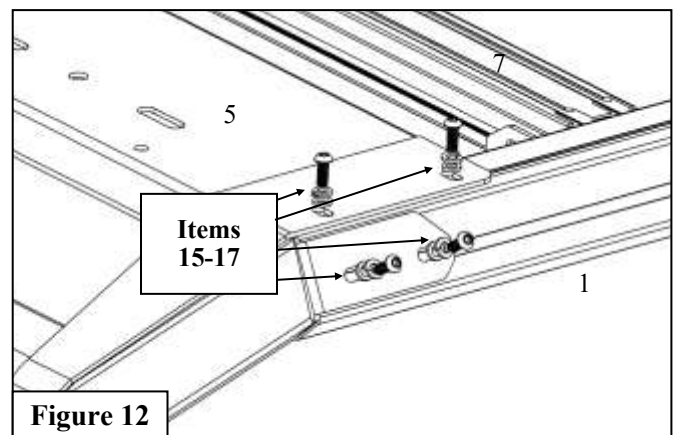

Figure 12
13. Locate the Visor (**Item 5**) and using the M6 Hardware (**Item 15-17**) Loosely secure it to the front of the roof rack. See **Figure 12 & 13** for reference.